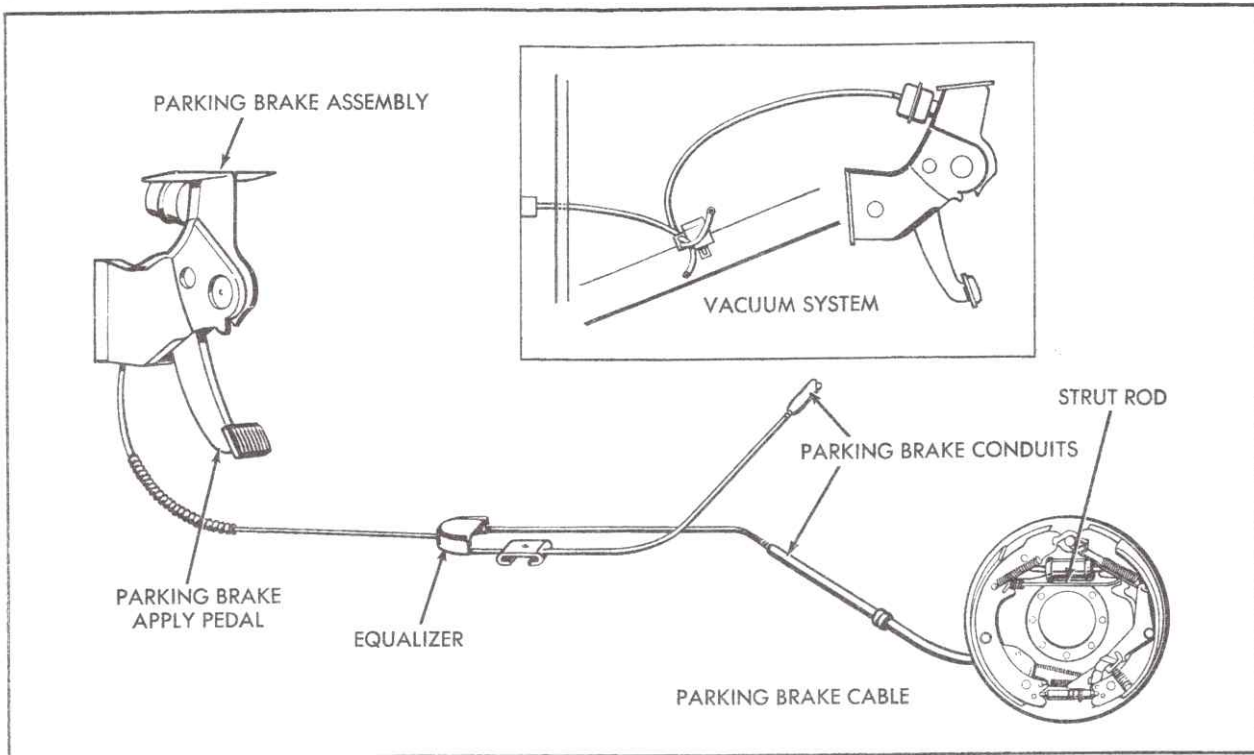

Fig. 5-10 Parking Brake Linkage
6. Insert cable stud through equalizer, making sure the rear cables are properly routed through equalizer and secured at C-shaped clamp, Fig. 5-10.